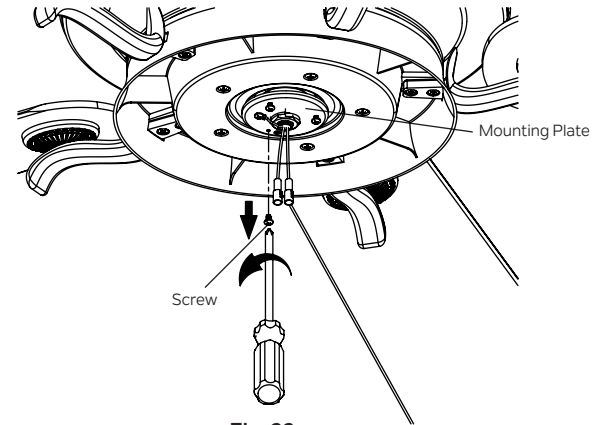

Fig. 22
Step 1. Remove the screw marked with a brown dot label on the mounting plate and keep for later use. Loosen the other two (do not remove).(Fig.22)